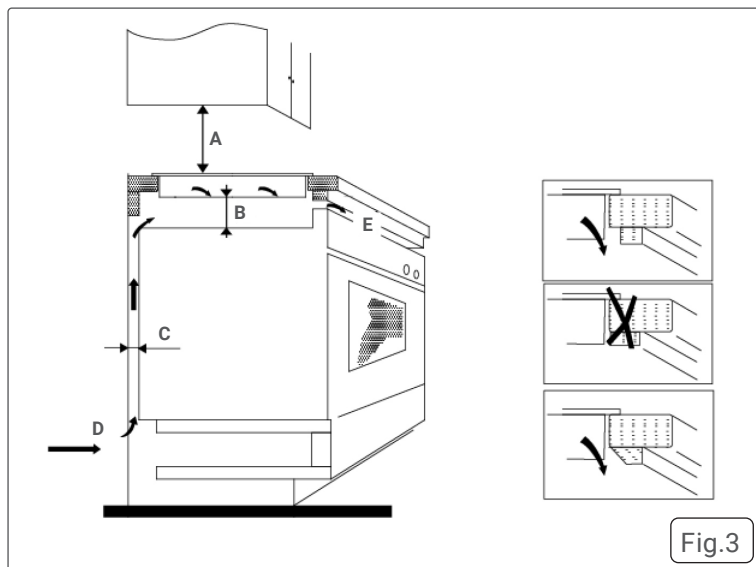

Fig.3
- The cooker hob is designed for installation on a work surface. Ensure that a minimum clearance of 50 mm is maintained around the cut-out to allow for proper ventilation, heat dissipation, and safe operation. The work surface should be level, stable, and made of heat-resistant material. Before installation, verify that all adjacent surfaces, cabinetry, and walls comply with the recommended safety distances specified in the manufacturer's guidelines see fig.1, fig.3. Proper installation ensures optimal performance, safety, and longevity of the appliance.
- To ensure a correct ventilation of the hob please comply with the dimensions shown in fig.3.
- Minimum ventilation clearance requirements are 760mm above the hob, 5mm below the underside and 2cm from the rear (fig.3).
- IMPORTANT:** There are ventilation spaces around the outside of the hob. **YOU MUST** ensure that these spaces are not blocked by the work top, when you put the hob into position (see fig.3).